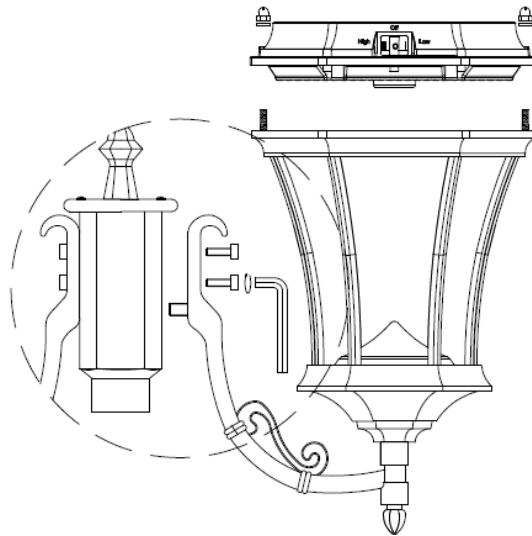

Fig. 2
2. Screw part (D) to part (E). Part (C) to part (D) and part (H) into part (C).
3. Screw bracket (J) into part (H) using the provided screws as shown in Fig. 2.
5. Screw part (K) on top of part (H) for GS-94B-D or (I) for GS-94B-T.